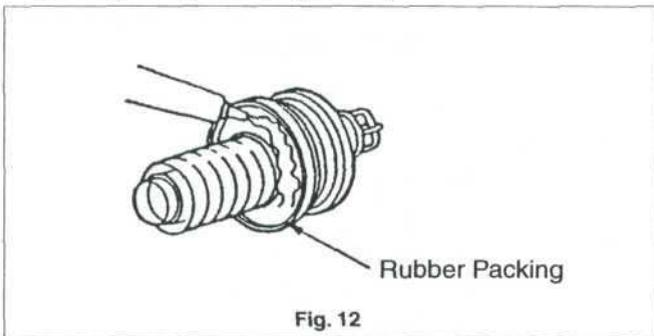

Fig. 12
2. Spread caulking material on the inside of the rubber packing if required. (Figure 12)
2. Spread caulking material on the inside of the Rubber Packing if required. (Figure 12)